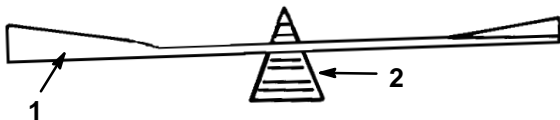

Figure 32
2. Check the balance of the blade by putting it on a blade balancer (Fig. 32). If the blade stays in a horizontal position, the blade is balanced and can be used. If the blade is not balanced, file some metal off the back side of the blade. Repeat this procedure until the blade is balanced.